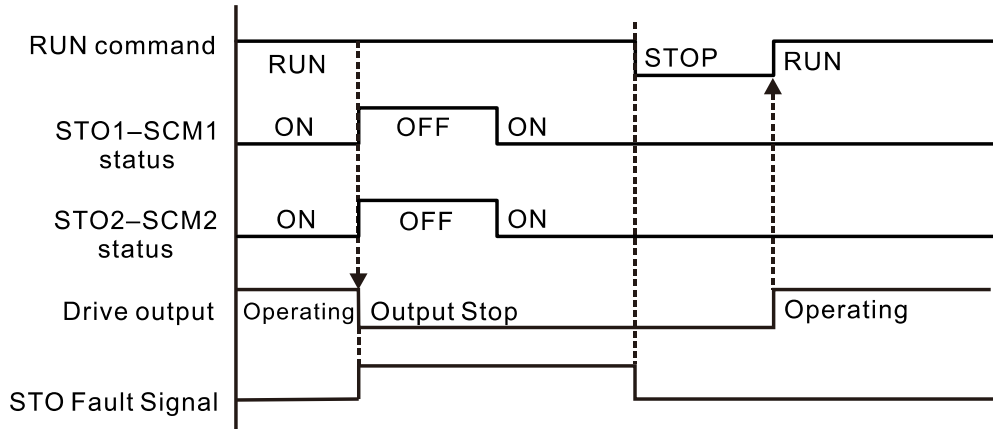

Figure 3
3. Common-mode noise is coupled via the power cable to other power systems then the cable of such a power system is coupled to the transmission system, as shown in Figure 3.